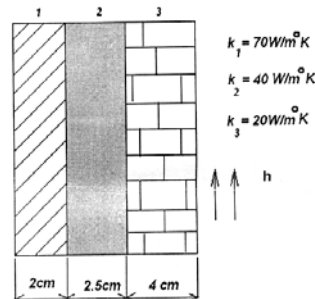

Fig.15(a)
15. (a) A composite wall consists of three materials as shown in Fig.15(a). The inside wall temperature is 200°C and the outside air temperature is 50°C with a convection coefficient of $10 \text{ W/cm}^2 \text{ }^\circ\text{C}$. Determine the temperature along the composite wall.